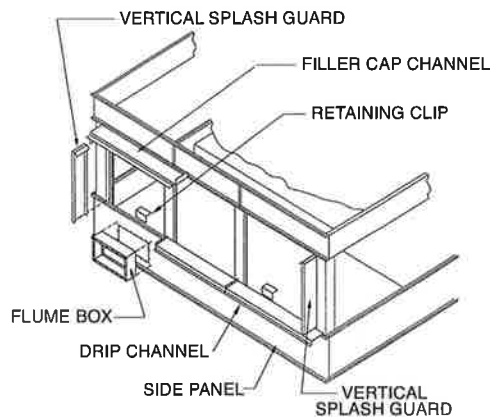

Figure 8 – Attachment of Drip Channel and Splash Guards
11. Place the vertical splash guard in the bend of the vertical supports. Attach the vertical splash guard using 5/16" self-tapping screws. On stainless steel units, attach the vertical splash guard using 5/16" stainless steel nuts and bolts. (see Figure 8)